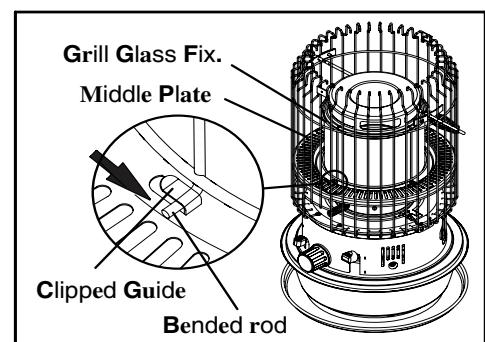

Fig. 4
- Align and insert 4 bended rods to Clipped Guides on Middle plate. (Fig 4)